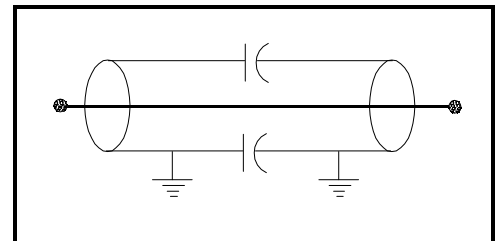

Figure 6. Outside DC Block
2. **OUTSIDE** - The high pass filter is in series with the cable shield as shown in Figure 6.